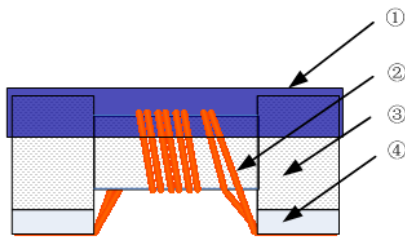

Fig.4-1
- e) Structures: See **Fig.4-1**, **Fig.4-2** and **Table 4-2**.